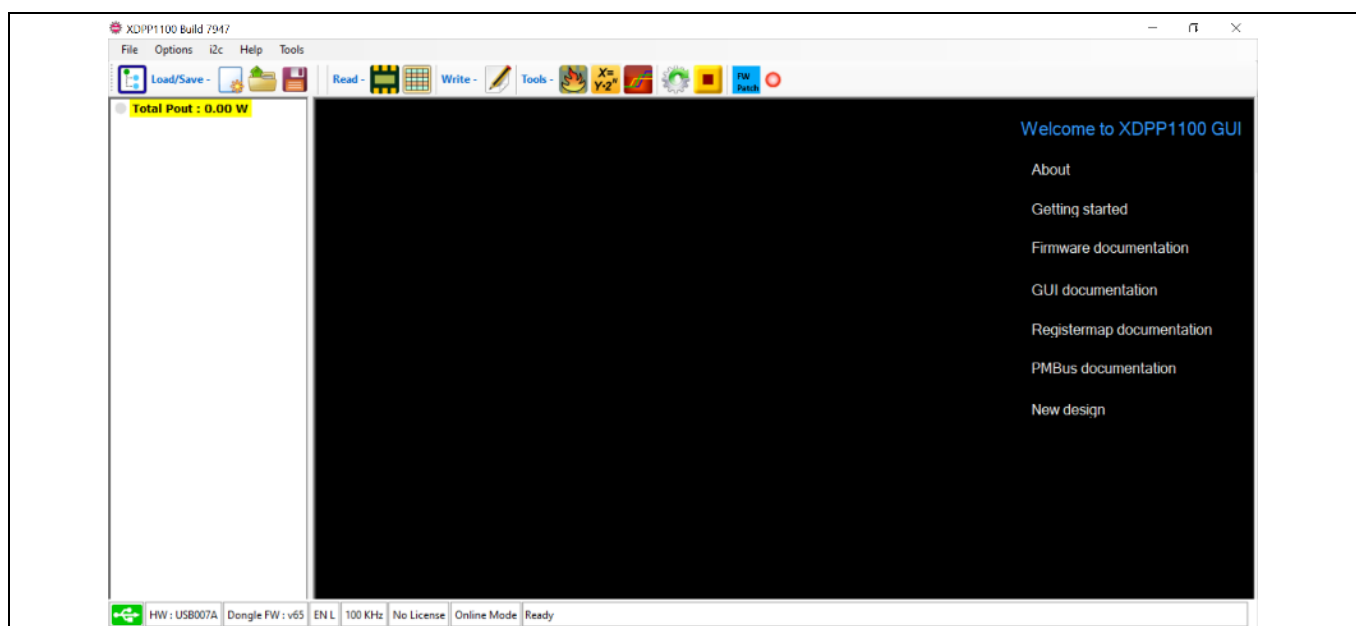

Figure 7 The XDPP1100 GUI starting window
- 5) Run the **XDPP1100GUI.exe**. The GUI starting window is shown in Figure 7.